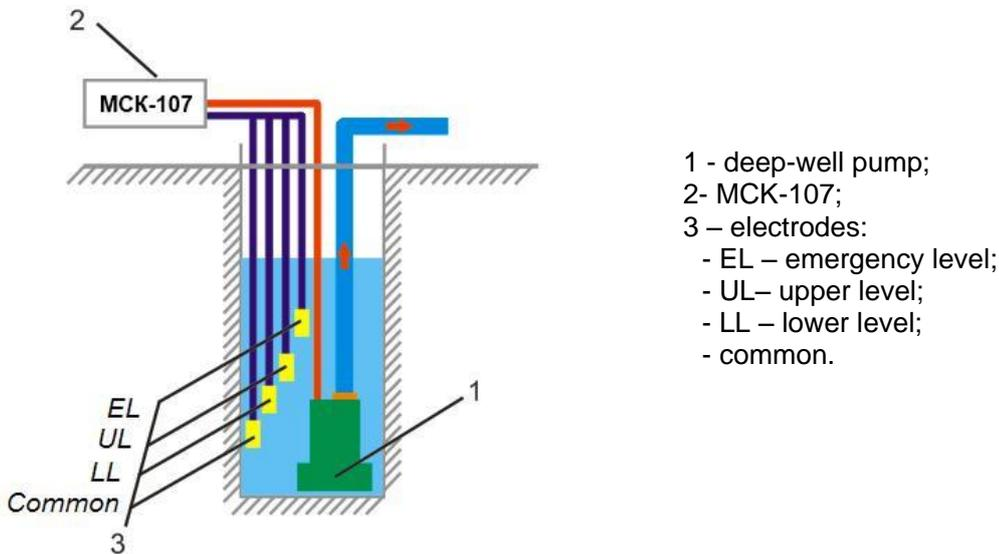

Figure 2.3 – Application of MCK-107 in the drainage mode
- drainage mode with level sensors (Figure 2.3);